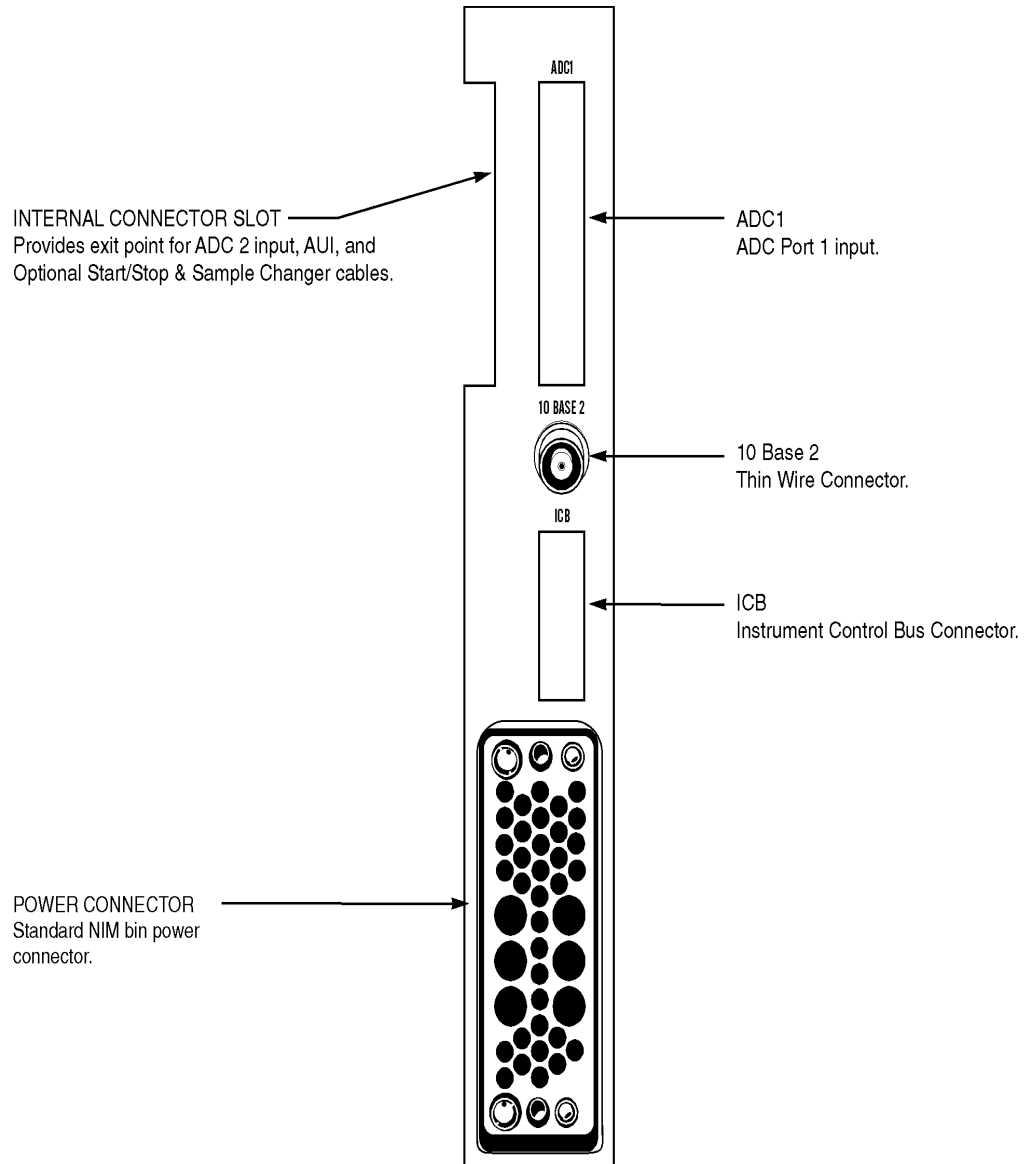

Figure 2.2 Rear Panel Connectors
4. Orient the cable from the ADC or AMX (see Figure C.1, C.2 or C.3 starting on page 28) so that its pin one indicator (an arrow on the connector itself or a highlighted colored cable) is up and connect it to one of the keyed 34-pin ADC connectors on the AIM's rear panel. See Figure 2.2 on page 3 for location of the connectors.